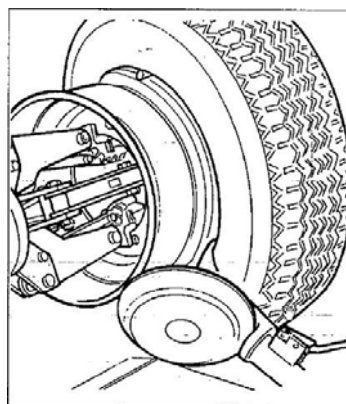

Fig.7.10
- 4) Move the tool forward until the red reference dot is lined up with the outside edge of the rim and about 5 mm from it (See Fig.7.10).